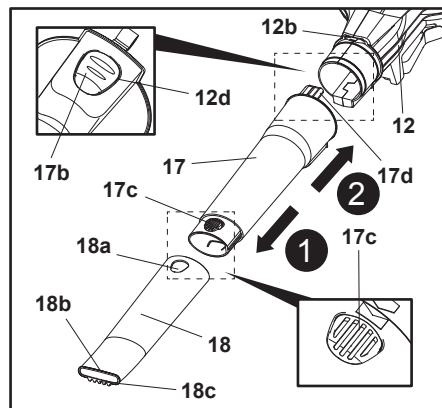

Fig. 1
1. Align and slide the sliding pin (17a) of the upper blower tube (17) into the slot of the lower blower tube (18) all the way to the stop. Ensure that the two latches (17c) engage in the location holes (18a) (Fig. 1, step 1).
2. Align and insert the tap (17d) of the upper blower tube (17) into the blower port (12b) of the main unit (12). Ensure that the locking button (12d) engages in the location hole (17b) (Fig. 1, step 2).